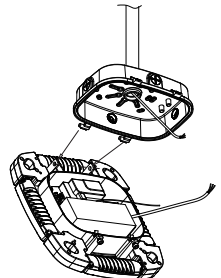

Figure 1-4
4. Insert the mounting holes horizontally to the shaft of driver cover; Figure 1-4